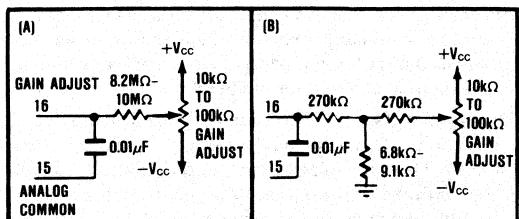

FIGURE 5. Two Methods of Connecting Optional Gain Adjust.
input resistors. Alternatively, the gain range of the converter may easily be increased a small amount by use of a low temperature coefficient potentiometer in series with the analog input signal or by the decreasing the value of the gain adjust series resistor in Figure 5.
**GAIN**—Connect the gain adjust potentiometer as shown in Figure 5. Set the input voltage to the nominal plus full-scale value minus 3/2LSB. Once again referring to Table I, this value is  $+10V - 7.32mV$  or  $+9.99268V$  for